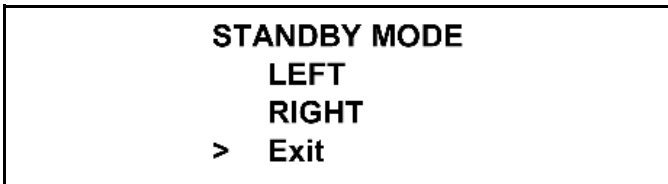

Figure 2-53
3. Repeat the steps to activate Standby mode on the remaining side. (See Figure 2-53.)